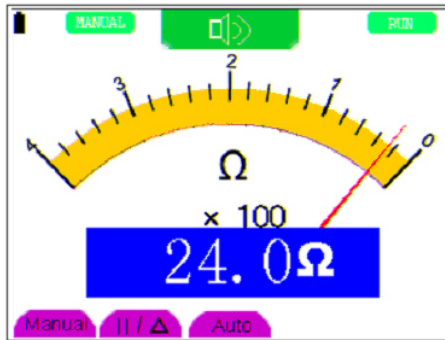

Figure 36.- On-off test.
4. Connect the red and black leads to the test point. If the resistance value of the tested point is less than 50 Ω, you will hear beep sound from the test tool. Now, you can see a screen that looks like the following Figure 36.
**NOTE:** When measured value is less than 5 nF capacitance, please use small capacitance measurer of this multimeter and use relative value measuring mode to improve measuring precision. It will take about 30seconds if capacitance measurement is large than 40uF. Now, you can see a screen that looks like the following figure 36.